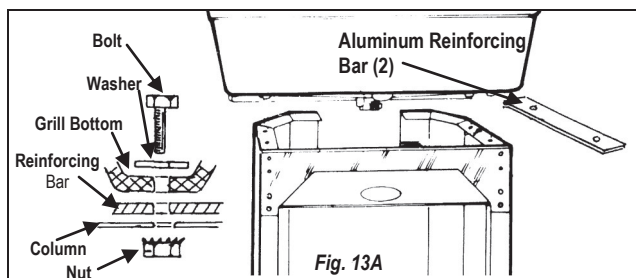

Fig. 13A
Step 3: Connect the Grill Head Bottom to Aluminum Column (Fig. 13A)